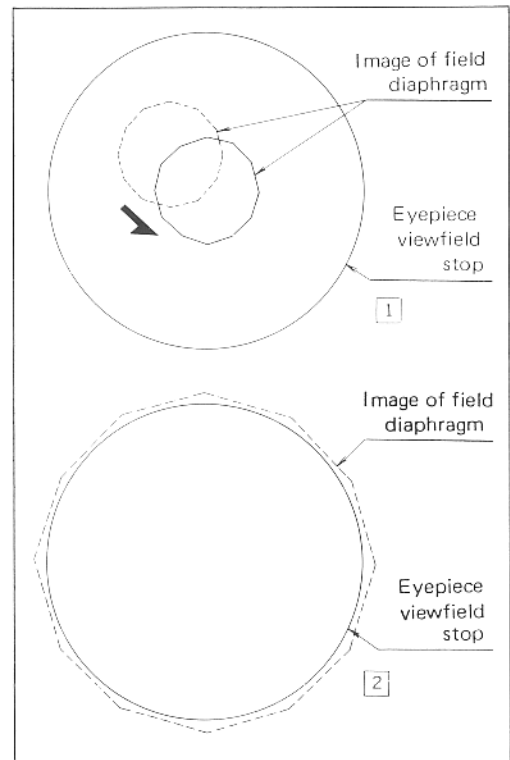

Fig. 17
- 3) Change over to the 40X objective, and adjust the field diaphragm so that the image of the diaphragm is about the same as that of the field of view, as shown in Fig. 17. If not centered, use the condenser centering screws again.